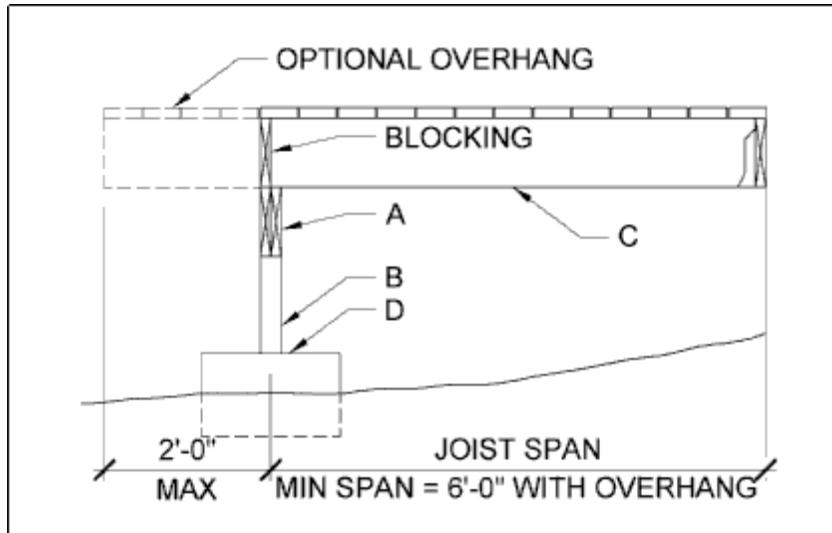

Figure 1 - Joist Span – Deck Attached At House
4. Determine how big and what configuration you want your deck. **Note:** The drawings contained in this document may indicate square or rectangular configurations; however, configurations can be diamond, trapezoidal, or other shapes as long as the longest spans are used to determine beam, joist, and footing sizes. The deck can have up to a two-foot maximum joist and/or beam overhang. See Figures 1, 2, and 3. Beams must be supported on each end by a post and cannot be supported with beam hangers off the house. (Beams are identified as item "A", posts as item "B", joists as item "C," and footings as item "D.") **It is recommended that you first determine the joist span "C," and then note what beam and footing sizes you will need.**
The span of a joist is measured from the centerline of bearing at one end of the joist to the centerline of bearing at the other and does not include overhangs. Maximum joist span lengths are noted in Tables 2 and 3. See Figures 1 and 2 for joist span types.